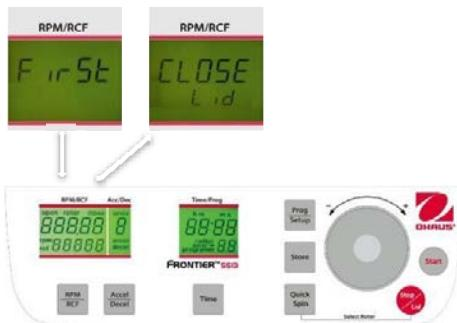
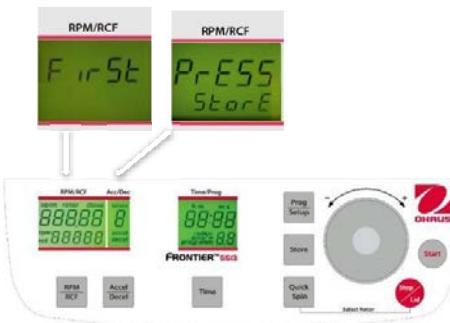

Figure. 20
Figure. 21
Close the lid of the centrifuge. Now proceed as described previously to set all important run parameters. If the lid isn't closed when storing the program, in the display "RPM/RCF" (A-1), the words "First" and "CLOSE Lid" (see figure 20) flashes alternately. If you want to start the run without storing the program, in the display "RPM/RCF" (A-1), the words "First" and "PrESS StorE" (See figure 21) flashes alternately.
For adaption of data press the key "Store" (2) (refer to figures 20 and 21) for approx. 1 second. If the program is stored correctly, the word "StorE" appears in the display "RPM/RCF" (A-1). As a result, the word "programm" (M10) disappears.
You can start the centrifuge either with the **"Start"** key (10) (refer to figure 21) or the **"Quick Spin"** key (8). By the **"Start"** key (10) you can start stored runs or runs with manually pre-selected parameters.